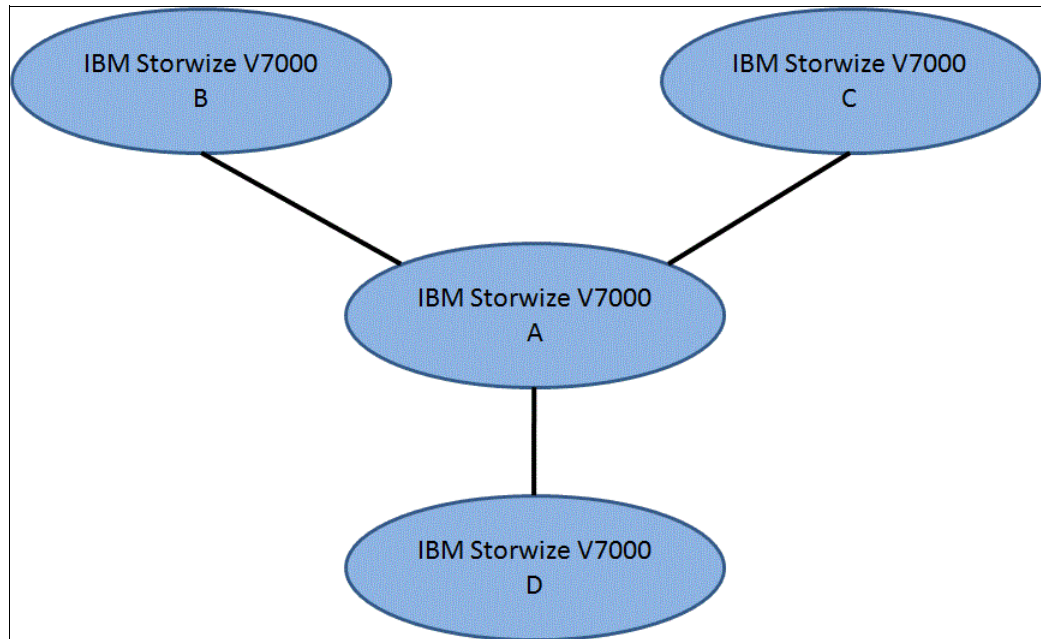

Figure 11-76 Star topology for IBM Storwize V7000
- Star topology (Figure 11-76)